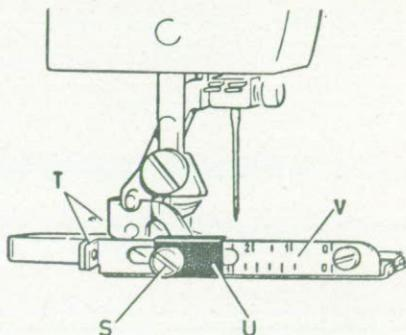

Fig. 70
Raise buttonholing foot, and loosen screw « S » (fig. 70). Operating with the right hand on right wing « T », move the sliding part of the foot, while, with the left hand, you move slider « U » until its front end shows, on graduated scale « V », the length of the desired buttonhole. Then fasten screw « S » firmly.
f) To cut buttonhole: hold with both hands at the same time the fabric and wings « T » (fig. 70) of foot sliding part, then push both wings backwards pressing slightly downwards the fabric with your fingers. When cutting is complete, cutter will automatically resume its initial resting position.